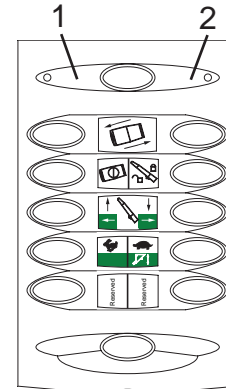

Figure 15
1. The Battery Low (Figure 15, Item 1) and Active (Figure 15, Item 2) LED indicators on the transmitter are used to indicate the status of the transmitter.